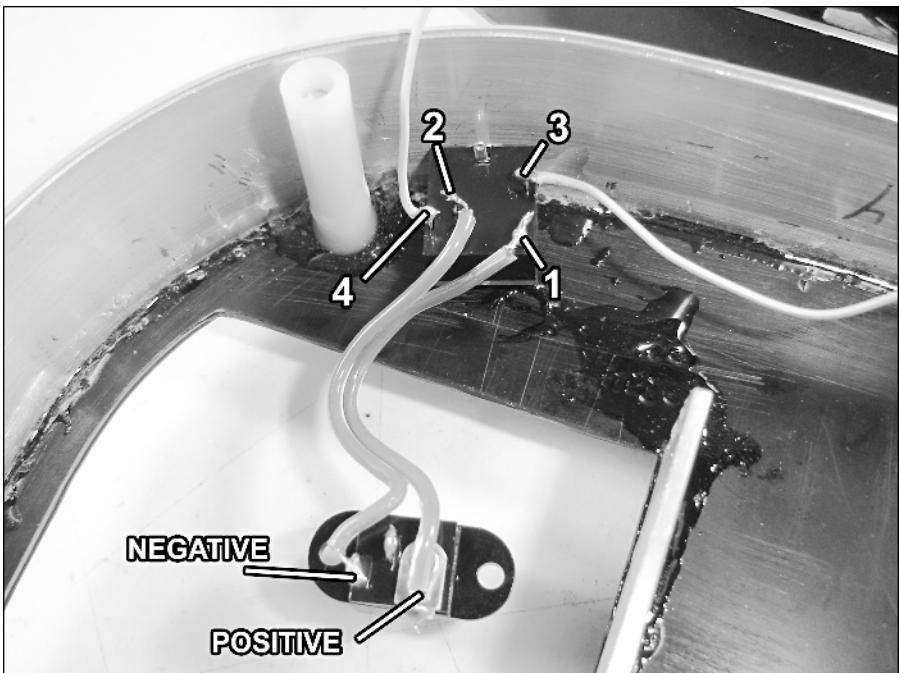

FIGURE 7-32: The auxiliary DC input jack installed in the rear of the case, along with the battery connector.
2. Insert the phono jack (Radio Shack catalog #274-246A) into the hole as shown in Figure 7-32, and screw the retaining ring on from the outside of the case. Get one of your Size K coaxial power jacks, and connect everything together as shown.
4. There are five leads on the phono jack—we'll be using four of them. The list below refers to numbered spots in Figure 7-32 and indicates how to connect the phono jack to the size K coaxial power jack and the rest of the unit: